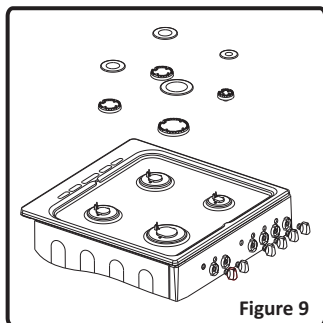

Figure 9
- Remove the burner cap and the upper burner (Figure 9).